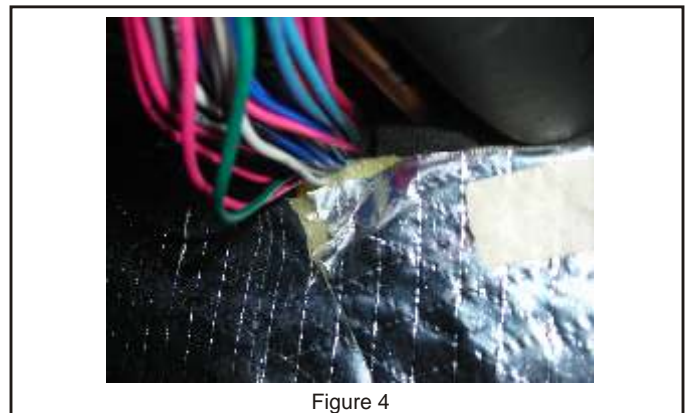

Figure 4
- D. Continue to follow wires along the top and through divider panel into the control center. **See Figure 4.**